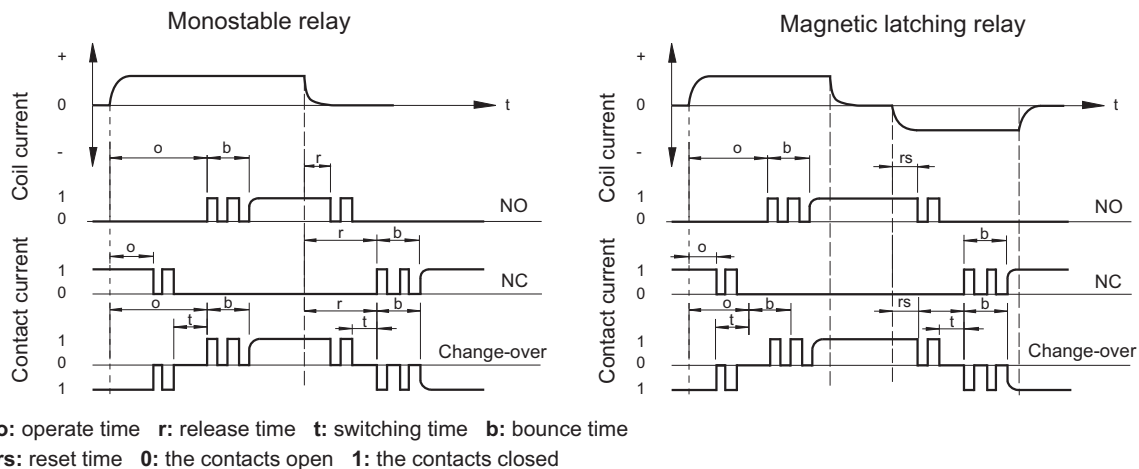

Figure 2
For the latching relays, operate time refers to, with the relay in the reset state, the elapsed time from the initial application of power to the coil, till the closure of the normal open contacts. Seen in figure 2.
2.4 Release time refers to, with the relay in the operation state, the elapsed time from the initial removal of coil power till the re-close of the normal closed contacts. It does not include bounce time and expressed in "ms". Seen in figure 2.
2.5 Reset time (only for the latching relays) refers to, with the relay in the operation state, the time from the first application of power to the reset coil till the re-close of the normally closed contacts. Seen in figure 2.
2.6 Bounce time generally refers to the time from the initial close of the contacts till the complete close and generally expressed in "ms". Seen in figure 2.